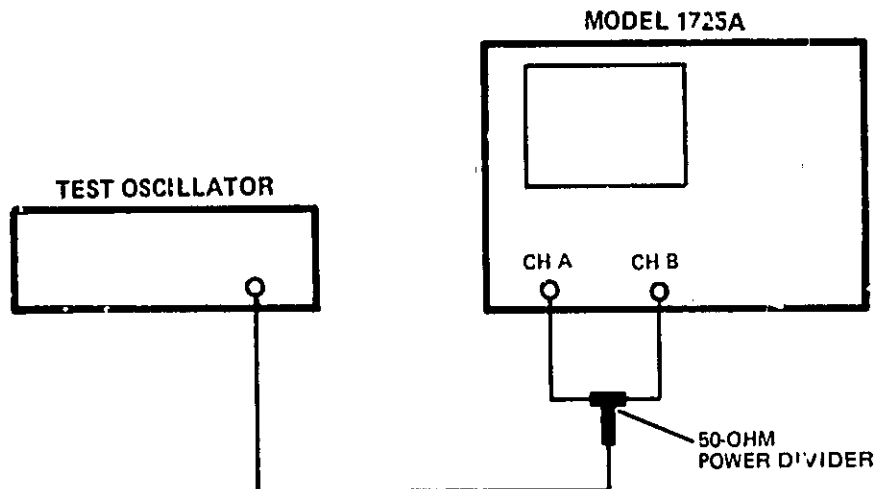

Figure 5-7. CMRR Test Setup
- a. Connect equipment as shown in figure 5-7.